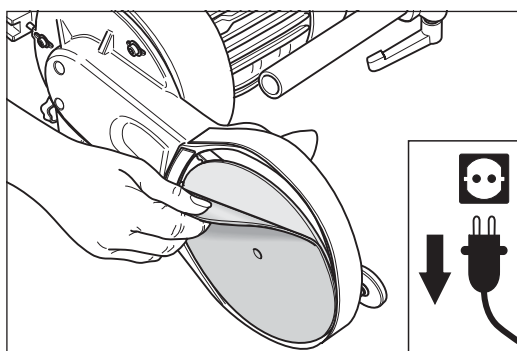

Fig. 47 Simply pull off the worn-out Velcro sanding disc.
- 3 Pull off the worn-out Velcro sanding disc from the sanding disc wheel (fig. 47).